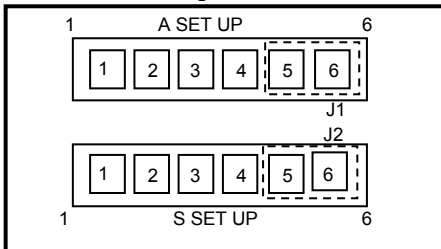

Figure 19
10. Position the jumpers on pins **5** and **6** of the **J1 (S SET UP)** and **J2 (A SET UP)** headers. (Refer to Figure 19)